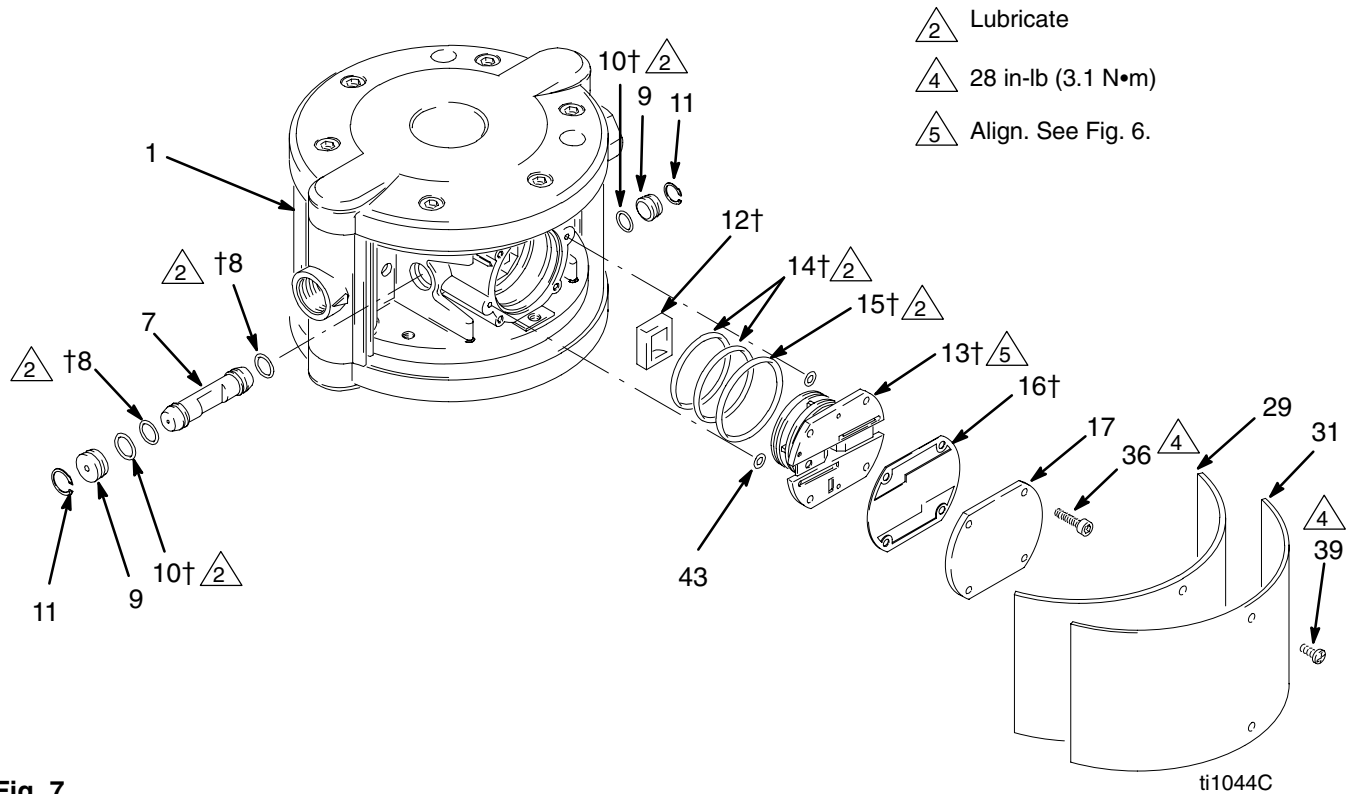

Fig. 7
1. Remove the side cover (31) and felt dampener (29).
2. Remove the four screws (36), air valve cover (17), and gasket (16). See Fig. 7.
3. See Fig. 6. Note the orientation of the air valve plate (13). Pull the plate out of the center housing (1). Remove the three o-rings (14, 15) and the two o-rings (43) from the plate. See Fig. 7.
4. Remove the air valve cup (12) from the center housing (1).
5. Remove the retaining rings (11) and plug (9) from both sides, and slide the carriage (7) from the center housing (1). Remove the o-rings (8, 10) from the carriage and the plug.
1. Lubricate the o-rings (8†) and install them on the carriage (7). Slide the carriage into the center housing (1) so the notch faces out, as shown in Fig. 7.
2. Lubricate each o-ring (10†) and install them on the plugs (9). Insert a plug in each side to secure the carriage (7). Install the retaining rings (11) to hold these parts in place.
3. Install the air valve cup (12†) in the notch of the carriage (7) so the open side faces out.
4. Install two o-rings (43) in the counterbore of the air motor.